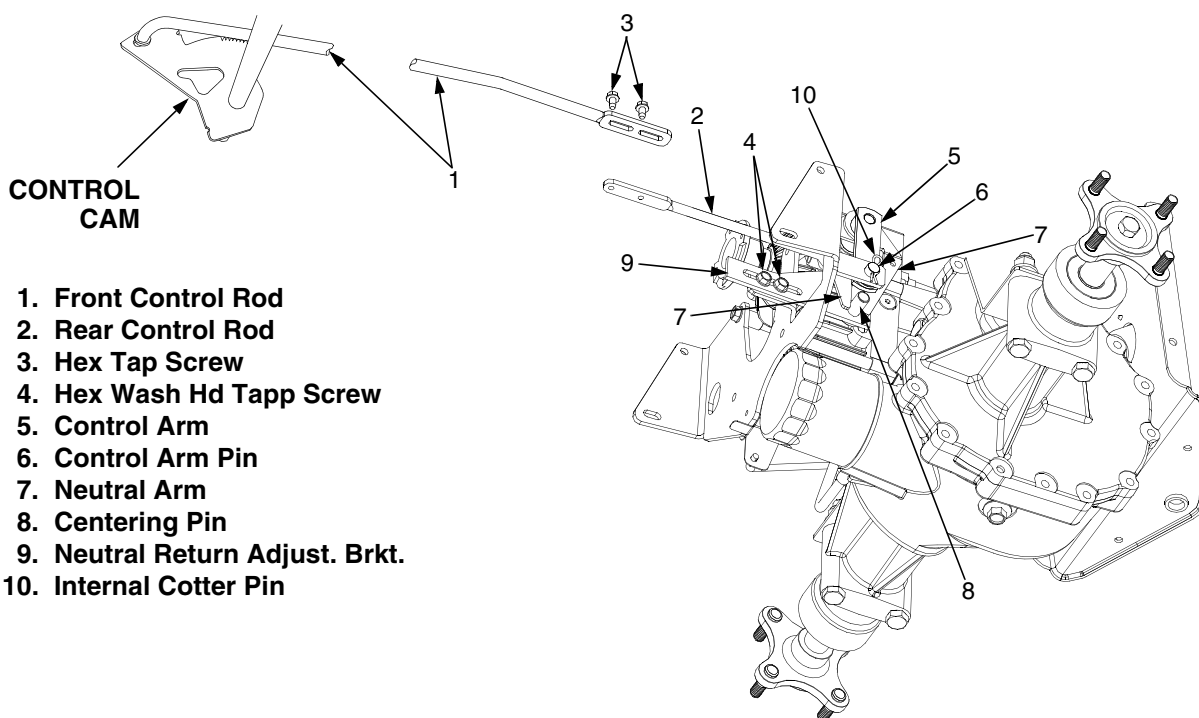

Figure 17
4. If wheel rotation is observed, refer to Figure 17 and adjust the neutral setting as follows:
- a. Disconnect the rear control rod (2) from the control arm (5) by removing the internal cotter pin (10) from the control arm pin (6).
- c. If wheel rotation continues, loosen the two hex washer head tapp screws (4) securing the neutral return adjustment bracket (9).
- d. If the rotation is in the *forward* direction, slide the neutral return adjustment bracket w/ centering pin (8) rearward until the wheels just begin to rotate in the *reverse* direction. Then slowly slide the neutral return adjustment bracket w/centering pin slightly forward until wheel rotation stops.
- f. Carefully tighten the hex wash. hd. tapp screws (4), making certain the neutral return adjustment bracket does not move.
After completing the previous steps (1 thru 4) for checking neutral setting, refer to Figure 17 and adjust the control rod as follows: